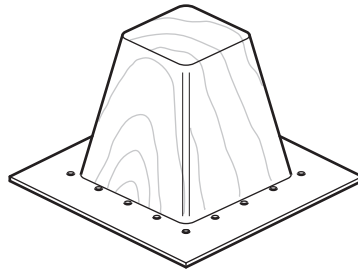

Fig. 3.1
- 3 Fig. 3.1 shows a former that will be used when vacuum forming plastic.